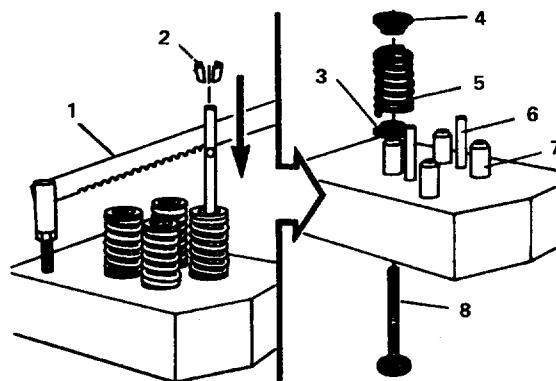

FIGURE 4-3. Valve Removal.
- (1) Use valve spring compressor (1, FIG. 4-3) compress spring (5).
- (6) Measure free length of valve spring (5, FIG. 4-3). Verify spring length is approximately 3.35 inch (85.1 mm).
- (17) Check the valve guides (7, FIG. 4-3) for chips or cracks. Replace the guide if it is chipped or cracked.
- (19) Verify crosshead guide (6, FIG. 4-3) is straight. Use micrometer to verify outside diameter is between 0.4320 inch (10.973 mm) and 0.4335 inch (11.011 mm).
- (20) Magnetic crack check valves.
- (a) Use magnaglo tester to check the valves (8, FIG. 4-3) for cracks. Check the exhaust valves with the coil shot method. Check the intake valves with the coil shot and head shot methods (coil shot first).